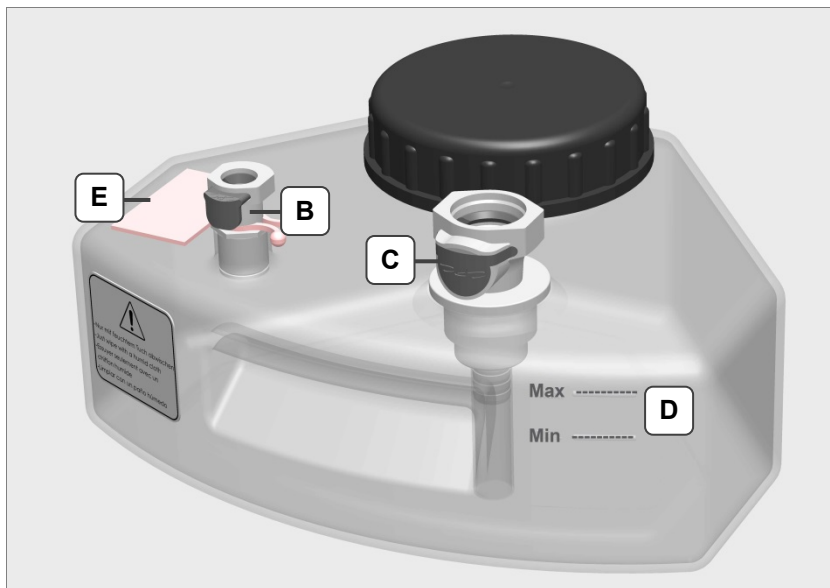

Fig. 4.4.3 Media tanks
Removable labels are attached to the media tanks for individual assignment and recognition of the filled media (*Fig. 4.4.3.E*).
Press the respective unlocking button on the shut-off valve of the media tank (*Fig. 4.4.3.B/C*) and pull the tube connection upwards out of the shut-off valve at the same time.
4. Open the screw cap and fill the media tank with the suitable cleaning medium up to a filling level between the *Min* – *Max* markings (*Fig. 4.4.3.D*).
The filling level of the operating materials must always be between the markings (*Fig. 4.4.3.D*) to guarantee proper operation of the cleaning machine and an optimal cleaning result.